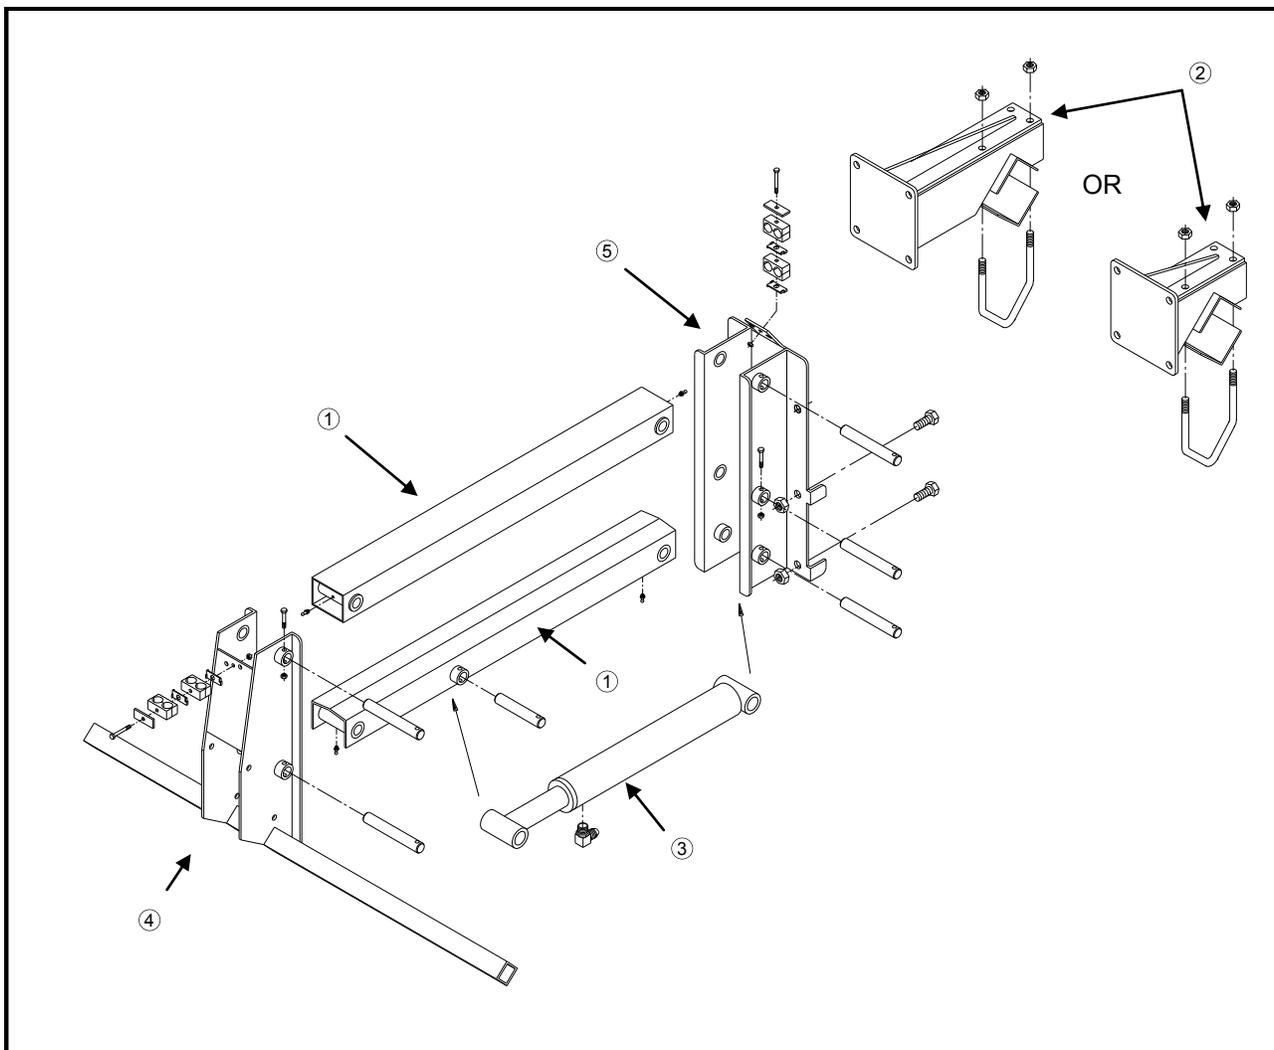

FIG 4.10
1. Attach the hoist column adapters (fig. 4.10, item 2) to the tool bar and the outriggers at the appropriate spacing. Refer to the Hagie 204SP Parts Manual for information on spacing.
2. Attach the toolbar mounting bracket (fig. 4.10, item 5) to the hoist column adapters.
3. Attach the lift arms (fig. 4.10, item 1) to the toolbar mounting bracket.
4. Attach the lift arm cylinders (fig. 4.10, item 3) to the lift arms.
5. Attach the toolbar weldment (fig. 4.10, item 4) to the lift arms.